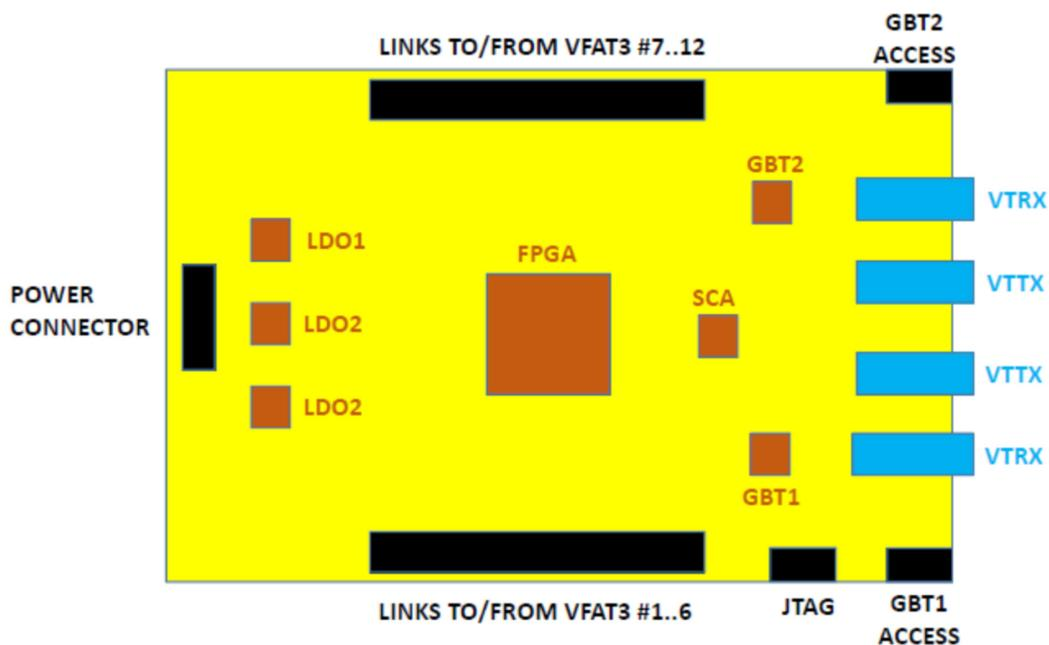

Figure 2.1: Schematic of the OH [4].
The Optohybrid (OH) provides a means of communicating with the VFAT3 (Very Forward ATLAS and TOTEM) application specific integrated circuit (ASIC) chips mounted on the GEM electronics board (GEB). This OH board was redesigned for the GE2/1 to better accommodate the needs of the GE2/1. It features an Artix-7 [3] field programmable gate array (FPGA) and two gigabit transfer (GBTX) chips which receive communication through the VTRX (receiver) and the VTX (transmitter) (see figure 2.1 below). The SCA is an ASIC dedicated solely to slow control applications. The GE2/1, originally designed for just one OH per two modules [5], now will include four OHs per chamber. Two optohybrids will be joined together by a master/slave connector, and will reduce the number of output optical links to the patch panel.
The first GBT (GBT0 in the software; GBT1 in the diagram in figure 2.1) communicates with VFATs 1-6 and also the SCA. If communication is not established to this GBT, communication will not be able to be established with GBT1¹. GBT1 (GBT2 in the diagram in the diagram in figure 2.1), communicates with VFATs 7-12. The VTRX transceivers connect these GBTs to the backend electronics (i.e., the μ TCA). The two optical transceivers in between these VTRXs are the VTTX transmitters.